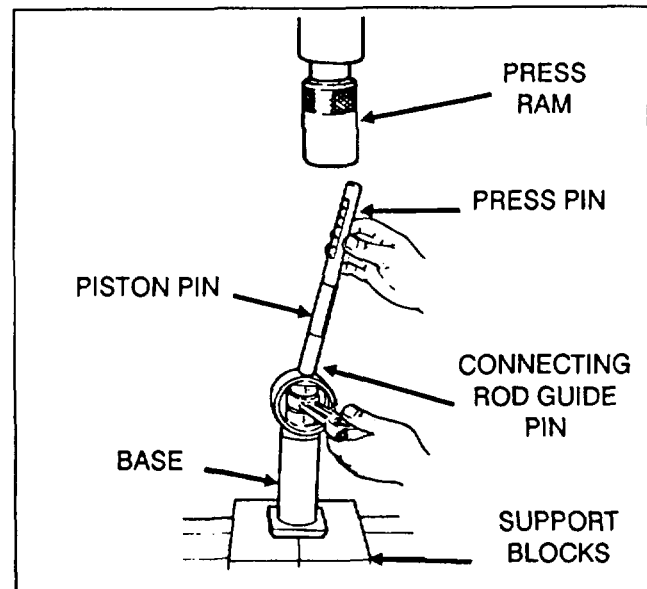

Figure 7
5. Coat the piston pin with oil, and with the connecting rod held in position, slide the guide pin through the piston and connecting rod. See Figure 7.